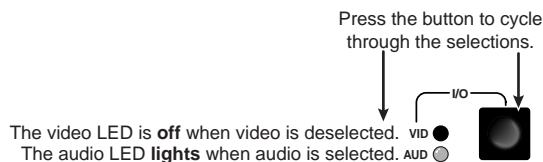

Figure 3-14 — Select audio only
1. **Audio/video switchers only** — Select audio only for the tie (figure 3-14).